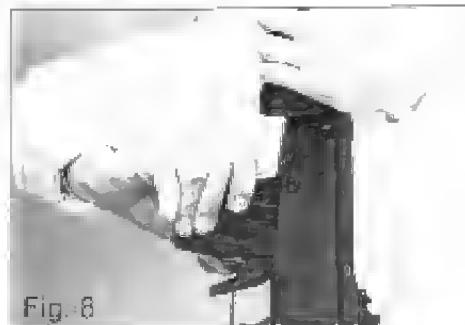

Fig. 8
19. The magazine is removed taking the rifle to the loading position, pressing the magazine catch with the thumb of the right hand, and pulling the magazine out from the housing. Fig. 8.